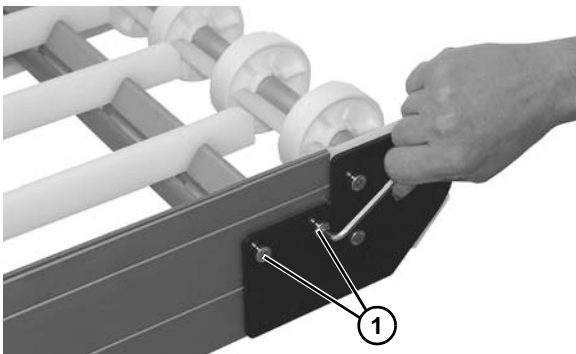

Figure 59
2. On one side of conveyor, remove the two socket head screws (**Figure 59, item 1**).